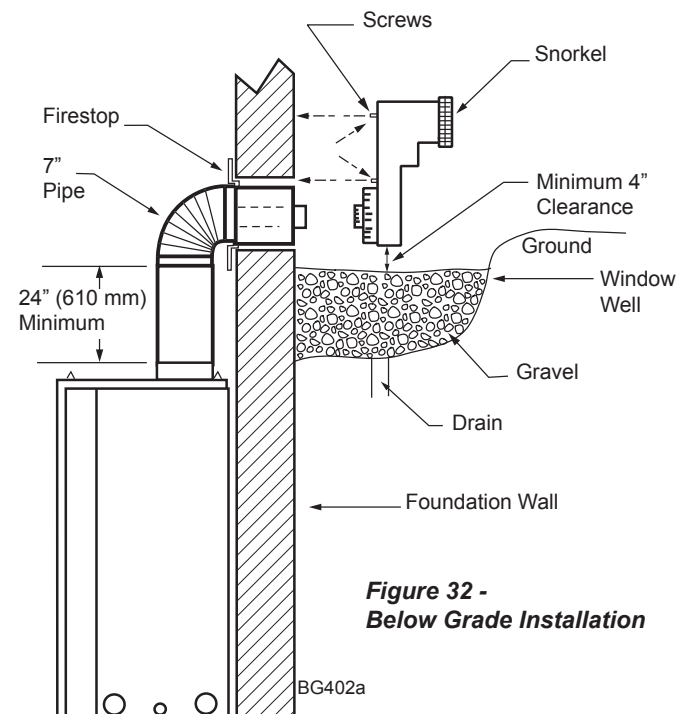

Figure 32 - Below Grade Installation
2. Remove soil to a depth of approximately 16" below base of snorkel. Install drain pipe. Install window well (not supplied). Refill hole with 12" of coarse gravel leaving a clearance of approximately 4" below snorkel. *Figure 32*
7. Level the soil so as to maintain a 4" clearance below snorkel. *Figure 32*
- Vertical installations up to 40' (12 m) in height. Up to a 10' (3 m) horizontal vent run can be installed within the vent system using a maximum of two 90° elbows. *Figure 32*